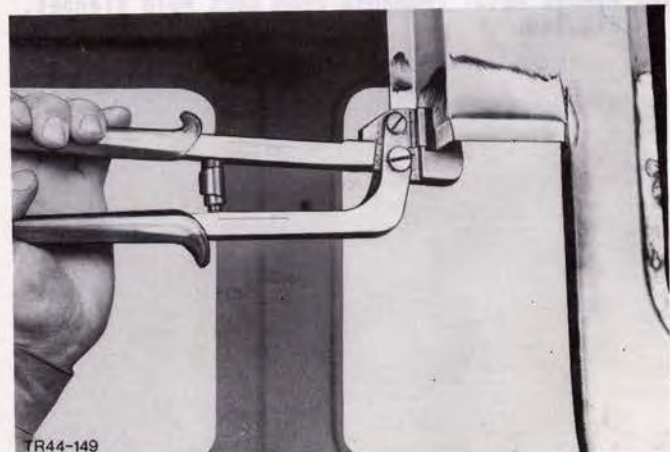

Fig.152. Joggle cut edges.
13. Deburr cut edges and joggle with joggling tool, Fig.152.